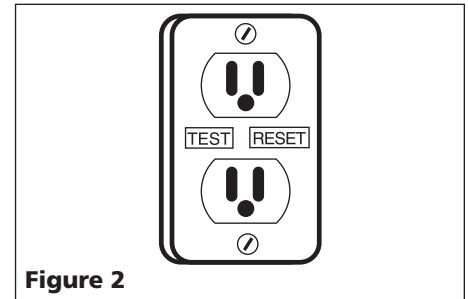

Figure 2
1. A ground fault circuit interrupter (GFCI) is required (see Figure 2).